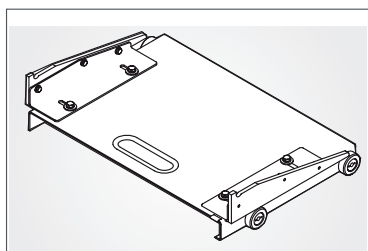

Figure 63
- To get access to the fixed contacts behind the shutters, use a shutter lift (Figure 63).